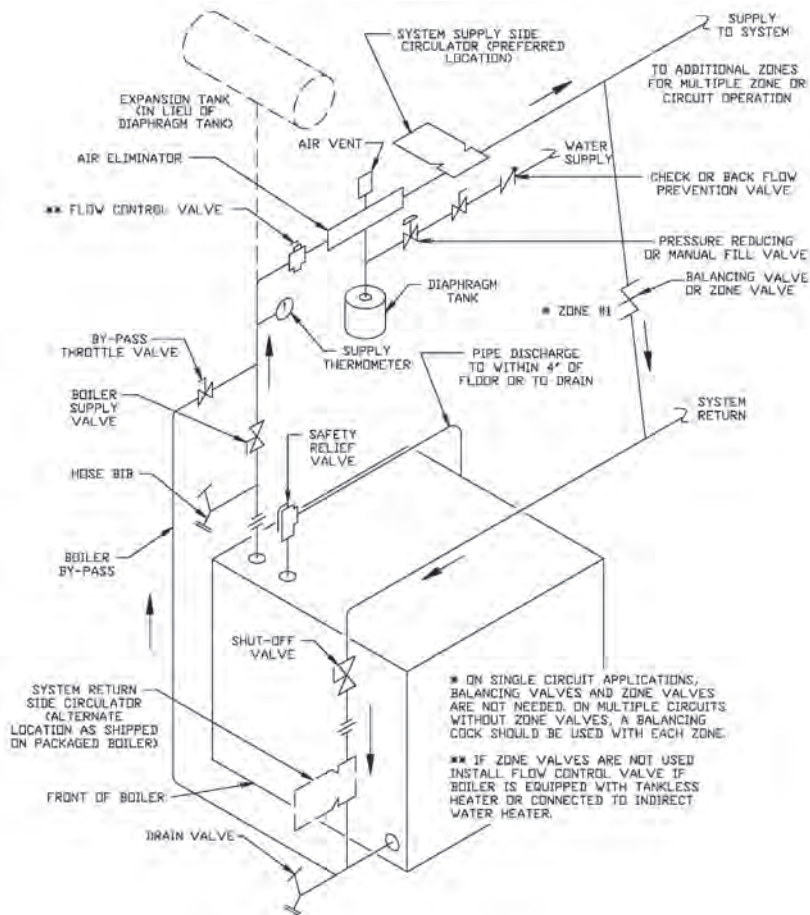

Figure 4: Recommended Water Piping for Zone Valve Zoned Heating Systems
1. For Forced Circulation HOT WATER HEATING, refer to Figure 4 for recommended boiler piping. Consult I=B=R Installation & Piping Guide No. 200.